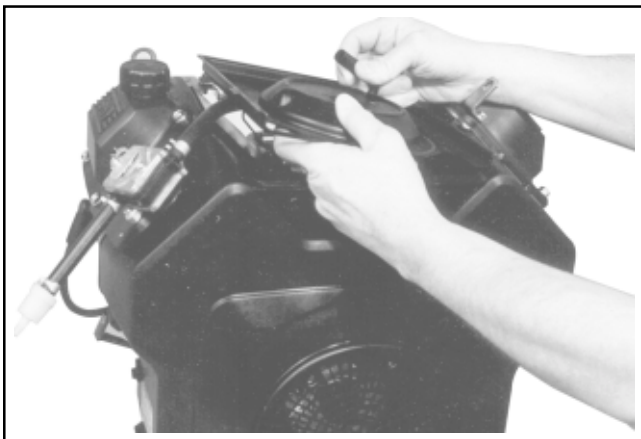

Figure 11-88. Pulling Breather Hose through Base.
2. Position a new gasket and the air cleaner base while carefully pulling the loose end of the rubber breather hose through the base until properly seated (collars sealed against each side of base). See Figure 11-88.